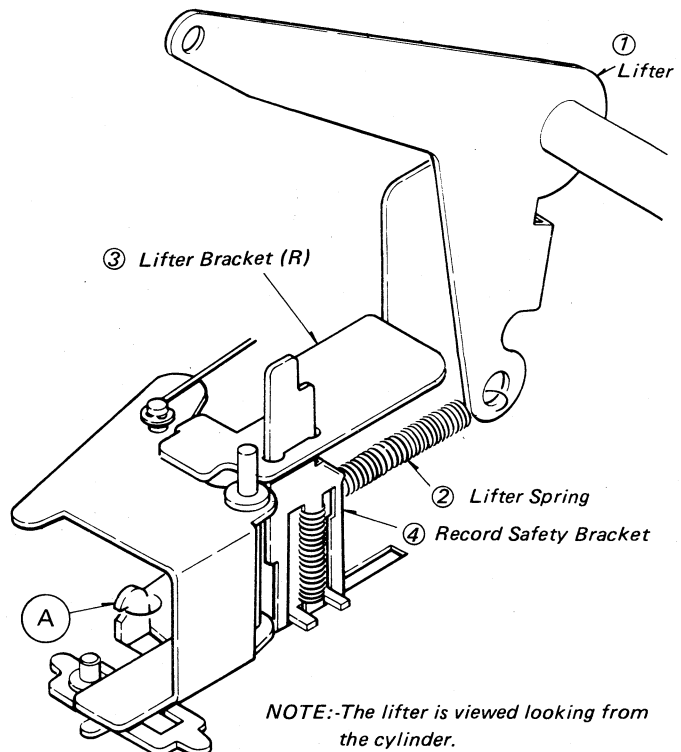

Fig. 5-22 Lifter Replacement.
5-2-5 Replacing the Cassette Compartment Lifters (see Fig. 5-22)
3. Loosen the two screws holding the lifter bracket (L) looking toward the front panel.
4. Take the lifter (1) out of the lifter brackets (L) and (R) each, and place it in the position shown in Fig. 5-22.
5. Take the lifter spring (2) out of the hook (A).
6. Remove the lifter (1).
7. To replace the lifter (1), reverse Steps 1 through 6.